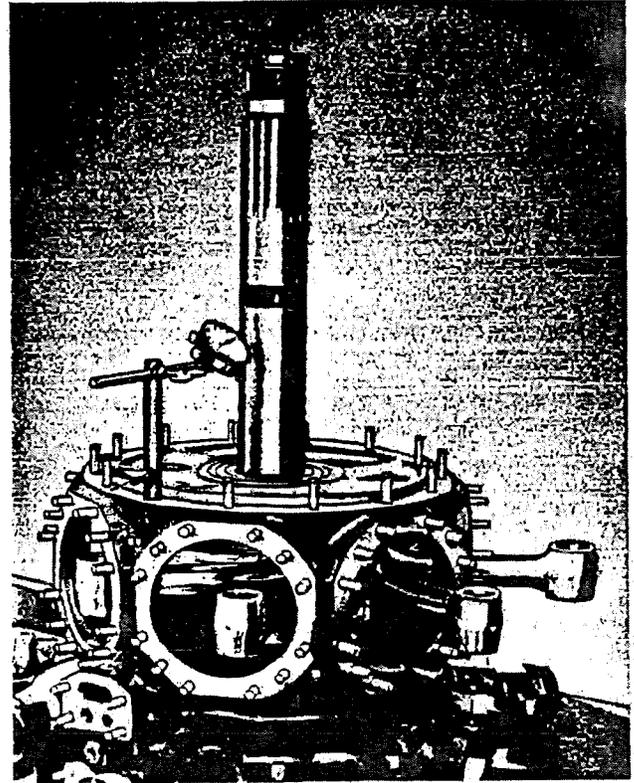

Figure 37 - Checking Crankshaft Runout
b. Mount crankshaft Aligning Indicator (Tool No. T-6011) onto a stud in the front crankcase and check the runout of the crankshaft with dial indicator. The total runout must not exceed .0025", measured approximately 2" behind the thrust nut thread. Refer to Figure 37.